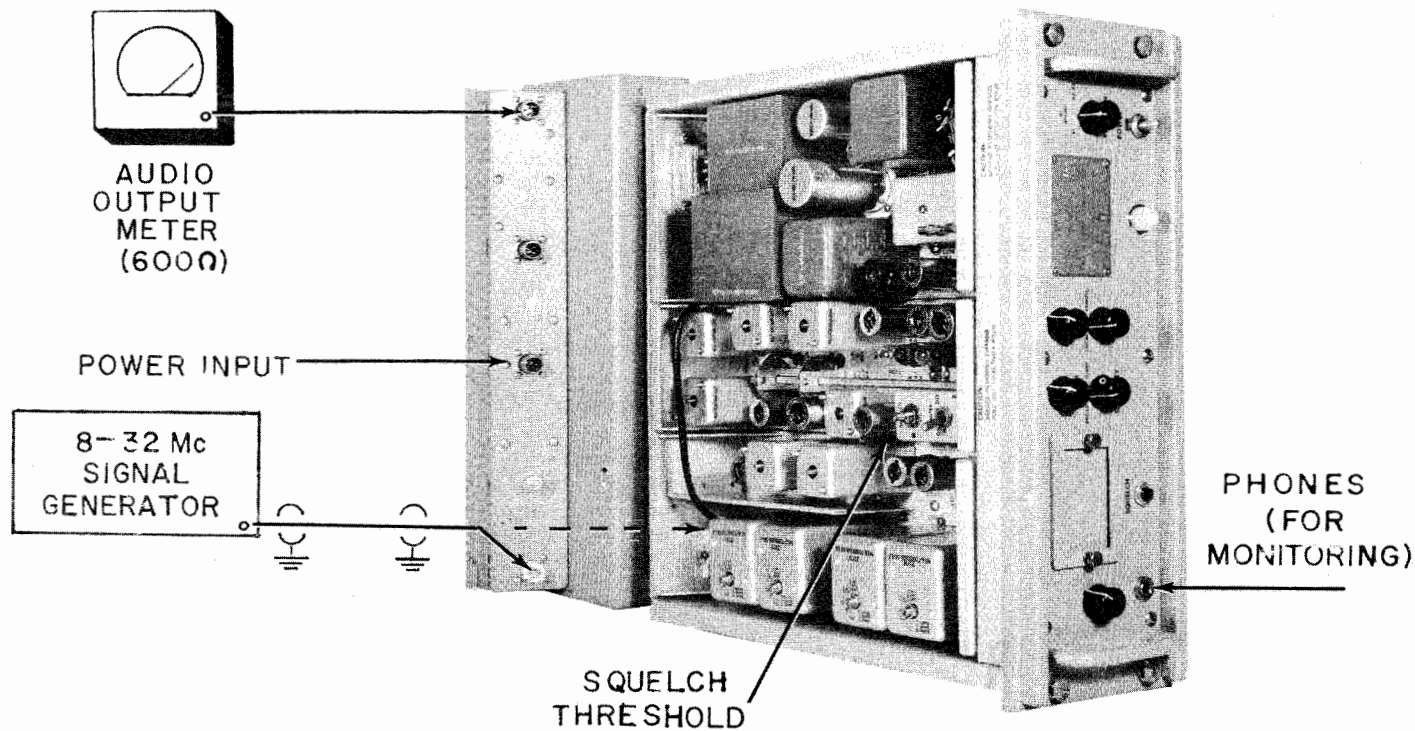

Figure 7-6. Set-up for RF Amplifier Alignment and Squelch Threshold Adjustment
(4) Align RF stages. (See Fig. 7-6, Table 7-5.)
(1) Leave all receiver controls as previously adjusted, during the IF amplifier alignment. Make certain the RF band switch is on the proper band, i.e. I, II or III.
(2) Each time the channel frequency is changed, the RF stages must be re-aligned, as outlined below.
(3) Connect the receiver, RF frequency signal generator, and audio output meter as indicated in figure 7-6 and proceed with the alignment as outlined in table 7-5.
(4) The 8-32 Mc signal generator output should be 30% modulated at 400 cycles, and can be connected directly to the RF chassis receptacle (J102) or to
l. SQUELCH THRESHOLD ADJUSTMENT.—The SQUELCH control (R217), located on the IF chassis assembly, is operative only when the RECEPTION switch (S301) is in the A2-A3 position. The receiver may be adjusted to any point of squelch opening desired, from a completely unsquelched condition to a point where a signal of over 100 microvolts is required to open the squelch. In SECTION 3, para. 4. a. (14), a method of setting this control for the most sensitive point is described. Should circumstances require that the squelch open at some definite signal strength, a signal generator with its output accurately calibrated in microvolts is required, and the following procedure should be followed. (See Fig. 7-6.)